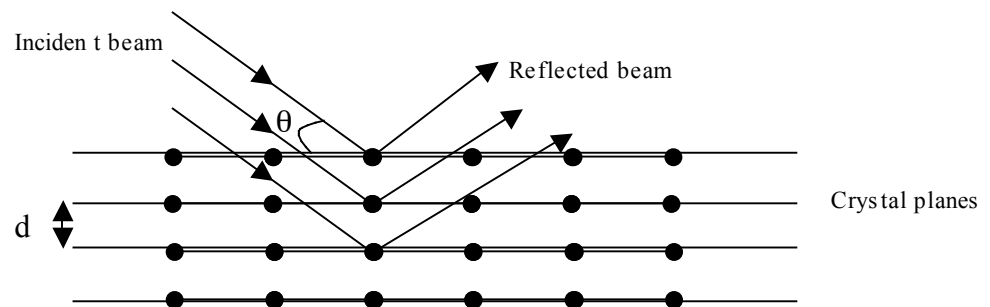

Figure 1.14: Reflection of X-rays from crystal planes.
- (b) When a beam of parallel X-rays of wavelength, λ is incident on planes of crystals as shown in Fig. 1.14, the reflection of x-rays by planes in a crystal can be shown to take place only when